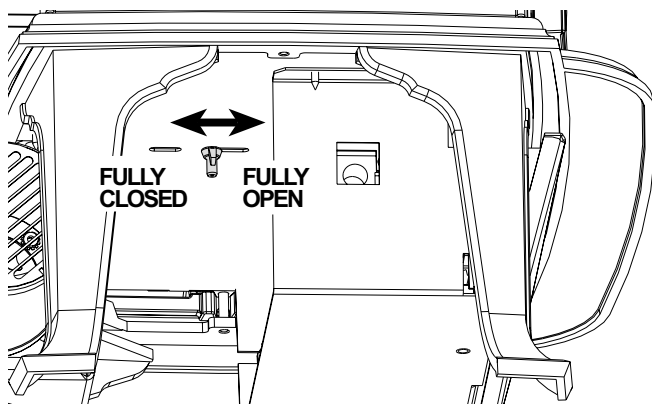

Figure 43.
See Flame Appearance / Air Shutter section of this manual for proper air shutter settings and adjustments. Note: the more offsets there are in the vent system, the greater the need for an air shutter adjustment. See fig. 43, page 24.
1. Reach under the stove and loosen the wingnut. See fig. 43 Slide the wing nut stud forward to open the air shutter and back to provide less air. Make adjustments in small increments.